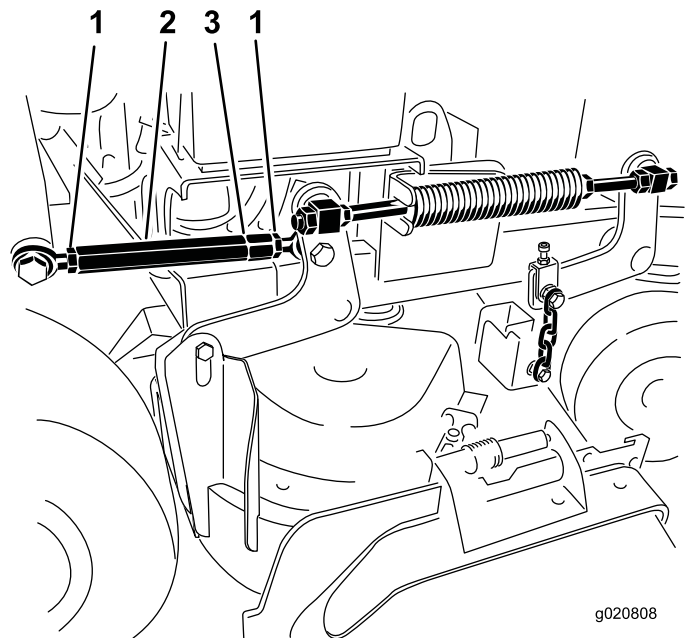

**Figure 85**
4. Measure the left blade at the **A** location, from a level surface to the cutting edge of the blade tip and record this measurement (Figure 85).
5. Measure the right blade at the **C** location, from a level surface to the cutting edge of the blade tip and record this measurement (Figure 85).
3. Measure the right blade at location **C**, from a level surface to the cutting edge of the blade tip and record this measurement (Figure 85).